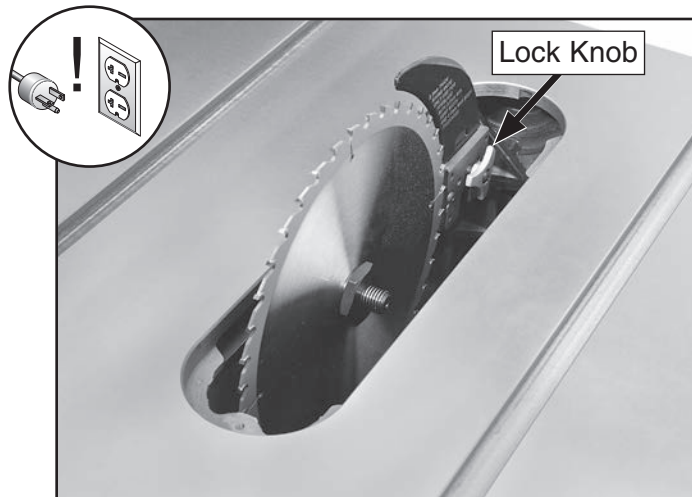

Figure 134. Lock knob location.
4. Tighten the lock knob (see **Figure 134**), then re-install the table insert.